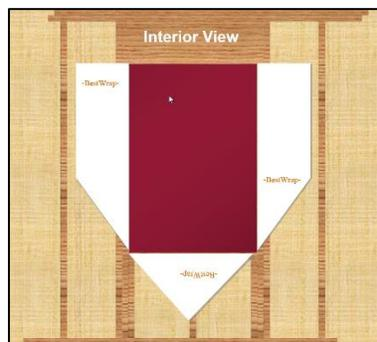

Fig 2
2. Fold the WRB to the interior of the RO and fasten with tape (Fig 2)